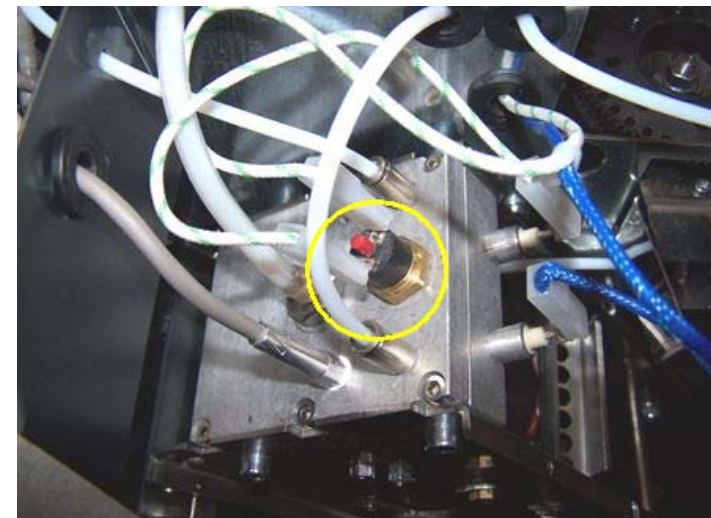

Fig.2
3. The two safety thermostats on the coffee exchanger (Fig.2) and on the steam/hot water exchanger (Fig.1) can be manually reset.